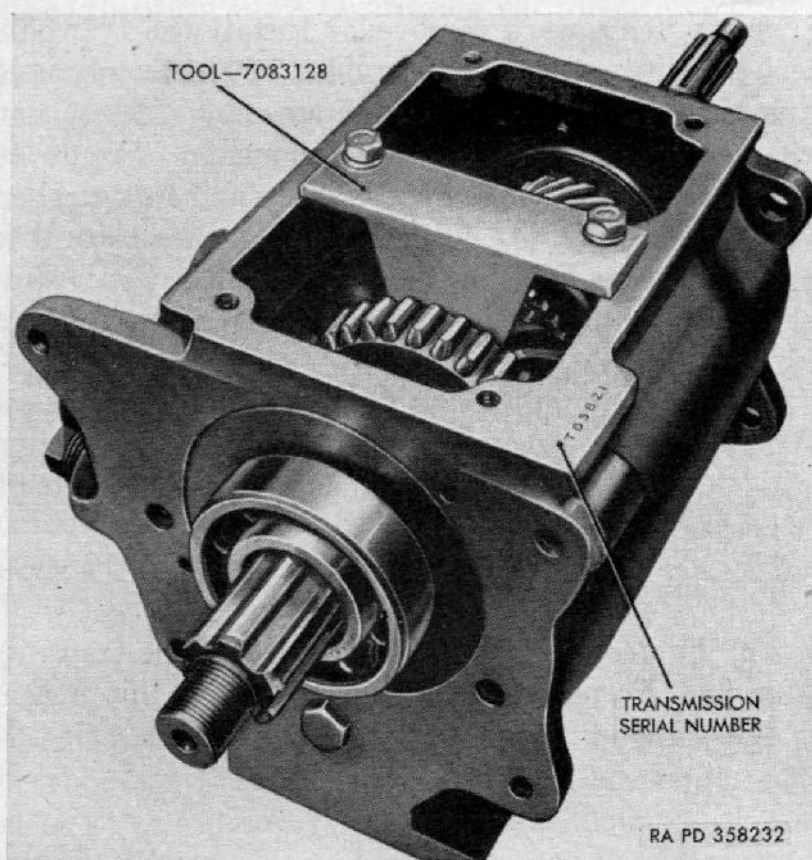

Figure 97. Mainshaft retained in position with tool 7083128.
mission. Position the retaining tool 7083128 (fig. 97) behind the second speed gear and secure to transmission case with two cap screws and lock washers. Remove the five cap screws and lock washers attaching the transfer to the transmission and separate transfer from transmission, using care that the transmission mainshaft rear bearing, which bears in both units, remains in the transmission. Remove the transfer gasket and discard.
*a. Install Transfer on Transmission.* Use a new transfer gasket between the transmission and transfer. Position the transfer on the transmission and secure with five cap screws and lock washers. Install oil slinger and main shaft gear, with the small gear facing out on the transmission main shaft. Install flat washer, nut, and cotter pin to secure main shaft gear. Install rear cover on transfer using a new gasket and secure with five cap screws and lock washers. Remove two cap screws and lock washers and remove retaining tool 7083128 (fig. 97). Position control housing on transmission case with a new gasket and secure with six lock washer cap screws.